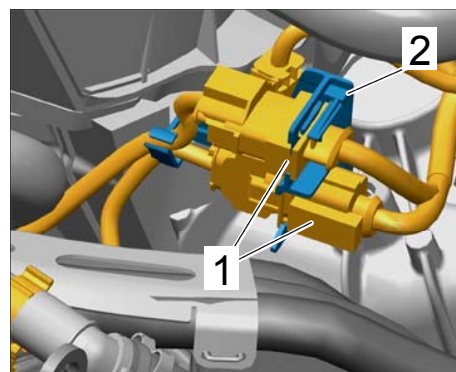

Figure 26
- 5.36 Fit plug connections for oxygen sensors ⇒ *Figure 26 -item 1-* with the holder ⇒ *Figure 26 -item 2-* at the spring strut mount.